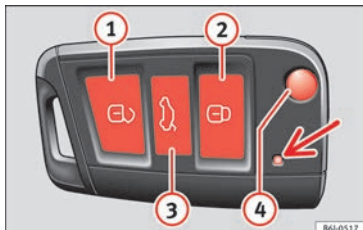

Fig. 130 Assignment of buttons on the remote control key.
By using button ④ » Fig. 130 on the control, the key shaft is released.
Unlocking the vehicle ② » Fig. 130 ①.
Locking the vehicle ③ » Fig. 130 ②.
Unlocking the rear lid. Press button ③ » Fig. 130 ③ until all the turn signals on the vehicle flash briefly. When the unlocking button ③ ③ is pressed, you have 2 minutes to open the door. Once this time has passed, it will lock again.
Moreover, the battery indicator on the key » Fig. 130 (arrow), will flash.
- Press the  button  » Fig. 130 on the remote control.